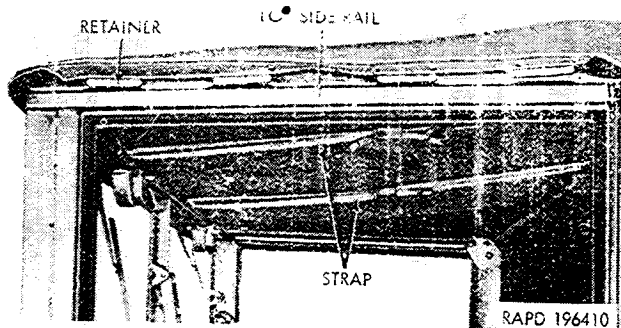

Figure 2-192. Top cover removed from top side rail.
(1) Unhook the cab top cover hold-down rope from the hooks on the cab rear panel.
(2) Remove the two cab top cover bow-to-windshield straps (fig. 2-192).
(3) Pull the cover out from the left and right top side rails to disengage the retainers from the side rails (fig. 2-192).
(7) Insert the metal retainers at each side of the cover in the slots in the top rail (fig. 2-192).
(8) Install the two cab top cover bows to windshield straps (fig. 2-192).
(9) Attach the cab cover holddown rope to the hooks on the cab rear panel and buckle the two cover straps.